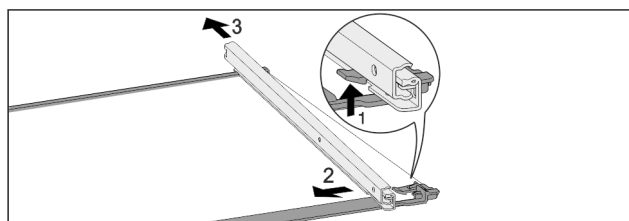

Fig. 83 Glass shelf with rails
- ▶ Push up front click-in hooks. Fig. 83 (1)
- ▶ Move the pull-out rails to the side Fig. 83 (2) and to the rear Fig. 83 (3).